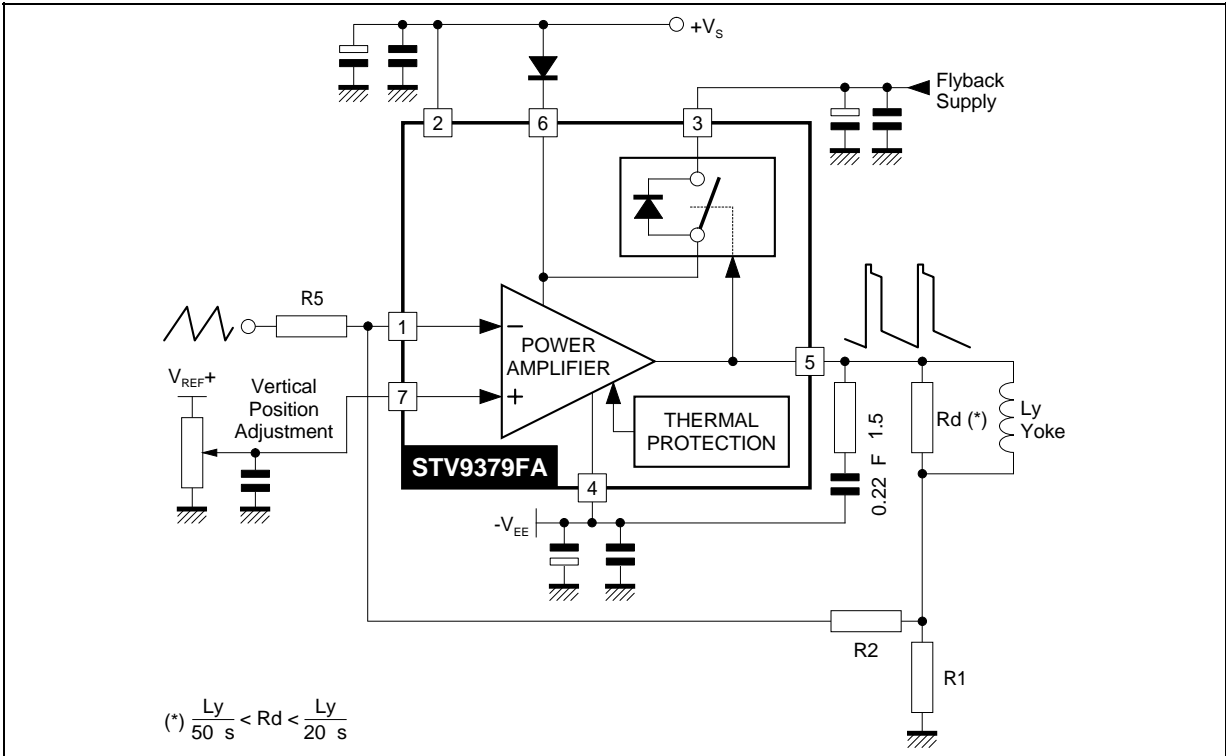

Figure 1 : Output Transistors SOA
3. Provided SOAR is respected (see Figures 1 and 2).